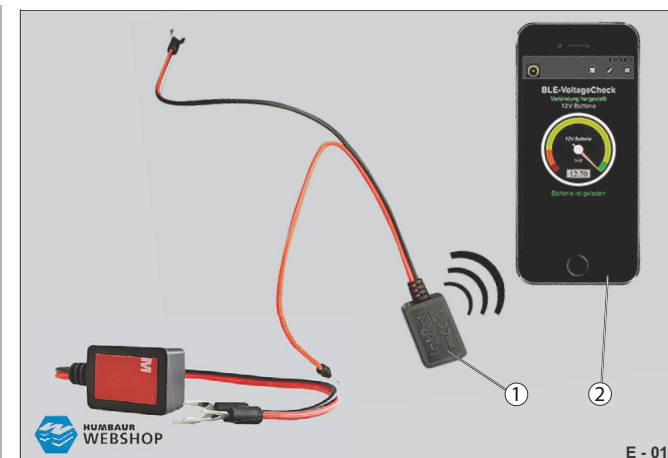

Fig. 14 Tester
- Check the charge status of the battery e.g. with a Battery Guard (Fig. 14 /1).